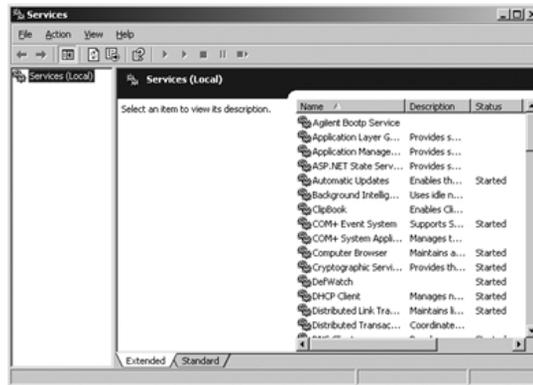

Figure 54 Windows Services screen
- 1 In the Windows control panel, select **Administrative Tools > Services**. The **Services** screen appears, see Figure 54 on page 282.